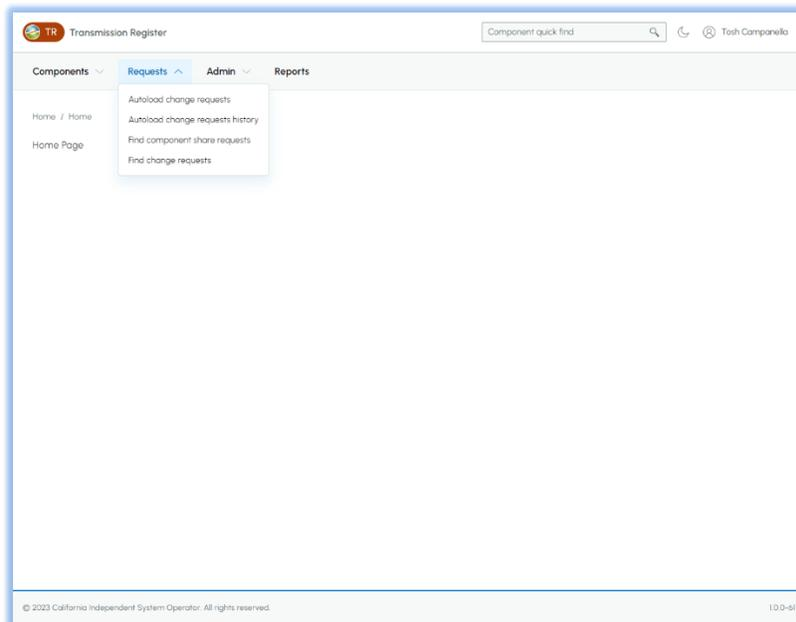
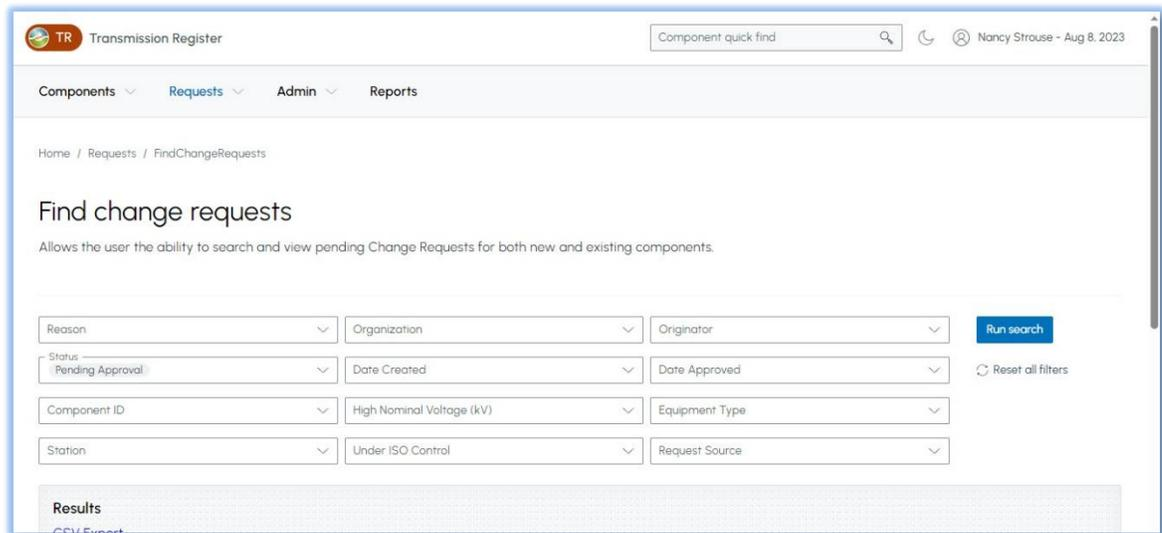

Figure 11 Request Page
Figure 12 Find Change Request Page
Select the Requests folder tab and the Requests page (shown in Figure 11) offers the PTO Admin the ability to perform the following:
- 16) Click the Find Change Requests hyperlink shown in Figure 11 and the screen in Figure 12 loads.
Both of these tools are accessed from the Requests page under the AutoLoad Change Requests and AutoLoad Change Requests History shown in Figure 11.